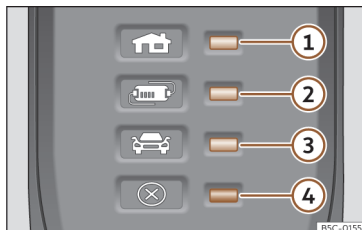

Fig. 70 On the charging cable for power sockets: Control lamps on the protection device.
>>> **Fig. 70:**
The electronic protection device >>> **Fig. 70** ensures that the charging connector does not receive current until it is plugged in to the vehicle's charging connector.
One or more control lamps >>> **Fig. 70** ①, ② or ③ light up green.
Display >>> Fig. 70	Meaning
①, ④ flashing	The housing connector has overheated.
②, ④ flashing	The protection device has overheated.
If the charging process continues with a lower current, both the operating indicator and the warning lamp >>> Fig. 70 ④ flash red.
- If it disconnects again, or the charging current reduces and the cause does not seem to be exposure to an external heat source, make sure that the green control lamp is flashing >>> Fig. 70. Visit a specialised CUPRA dealer or any SEAT network dealer to check the charging cable. Get an establishment that specialises in electrical installations to check the infrastructure connection.
If the red warning light ④ flashes or turns on without one of the control lamps >>> Fig. 70 ①, ② or ③ also turning on continuously on the status indicator, there is a fault.